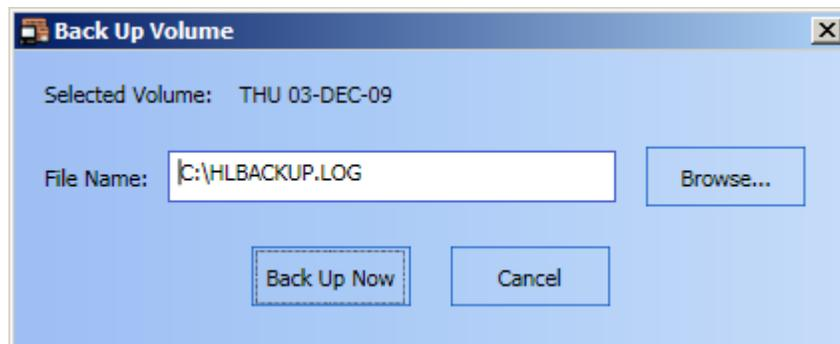

Figure 9-11 Back Up Volume Dialog Box
- A **Back up Volume** dialog box appears as shown in Figure 9-11.